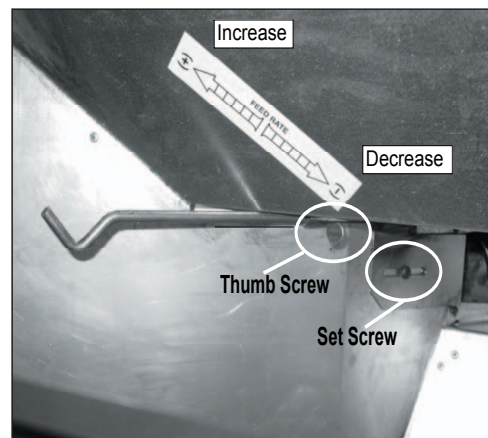

Figure 21.2
1. Loosen the thumb screw. **Figure 21.2**